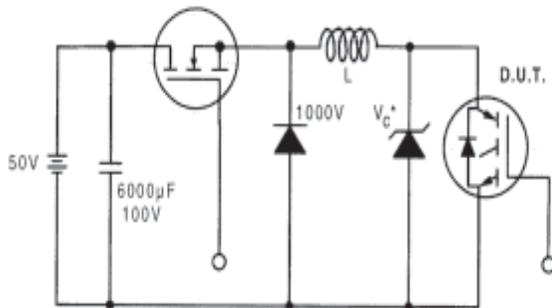

Figure 19. Clamped Inductive Load Test Circuit
- ② $V_{CC}=80\%(V_{CES})$, $V_{GE}=20V$, $L=10\mu H$, $R_G= 5.0\Omega$ (figure 19)
- ③ Pulse width $\leq 80\mu s$; duty factor $\leq 0.1\%$
- ④ Pulse width $5.0\mu s$, single shot
- ⑤ Current limited by the package, (Die current = 100A)